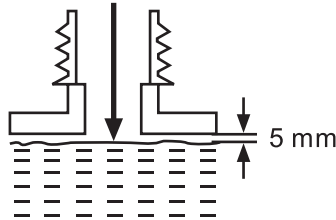

Fig. 13b
3. Use a proper funnel with a filter to prevent debris entering the tank and to avoid spilling and overfilling the tank. Do not overfill and leave approximately 5 mm of space to the lower edge to allow the lubricant to expand. (See Fig. 13b)